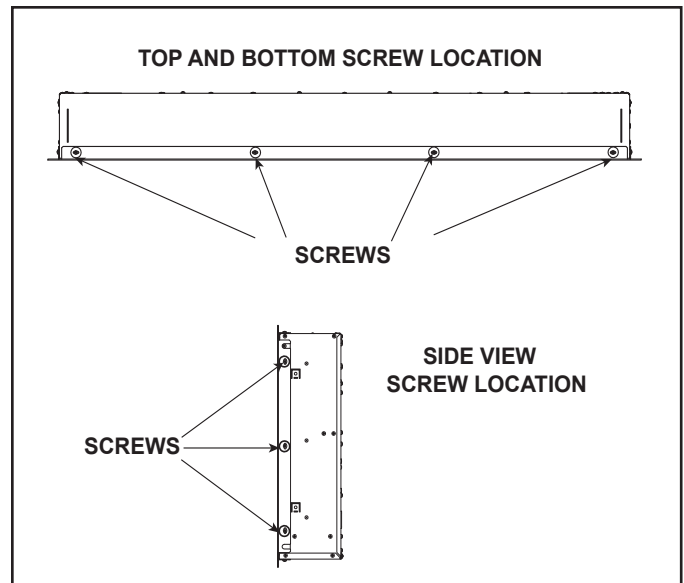

Figure 3 Remove Trim Screws
- Remove by removing the ST4X8 phillip screws on the top, bottom and sides of the appliance See Figure 3.